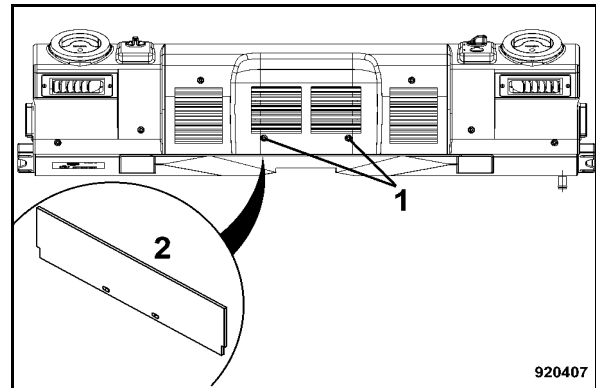

Fig. 151
- Unscrew screws (1) (Fig. 151).
- Pull the filter (2) downwards out.